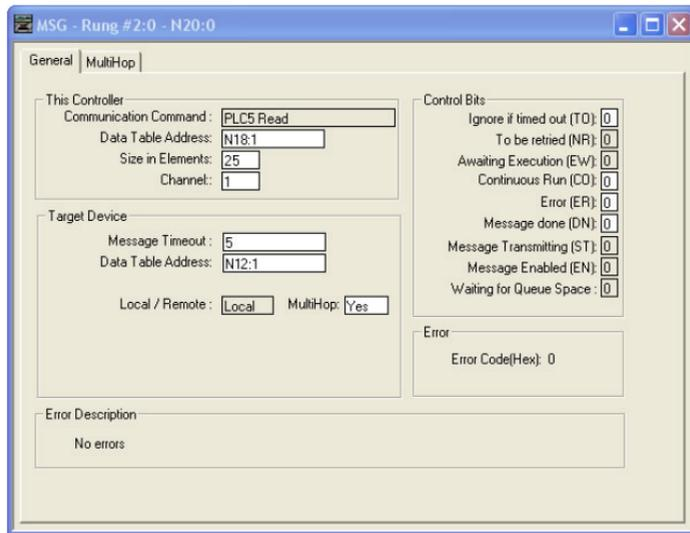

Figure 112: MSG Configuration, "General" Tab
- Upon hitting the <ENTER> key while in the “Control Block” entry box, the MSG Properties dialog box should appear (or it can be opened by clicking on the “Setup Screen” button at the bottom of the MSG instruction). Refer to Figure 112.